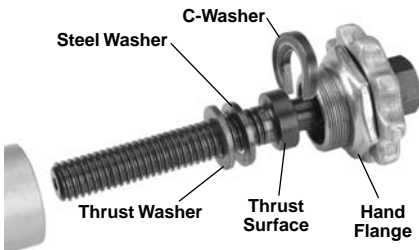

Figure 2 – Unit Assembly: Orient C-Washer and Steel Washer With Chamfer Towards Thrust Surface
7. Yearly (or more often under heavy use), disassemble the cutter by turning the hand flange clockwise (left hand thread). Remove the C-washer and unscrew the feedscrew from the cutter. Clean the feed-screw and washers and apply a good quality extreme pressure (EP designation) grease to points of relative motion when reassembling. See Figure 2.